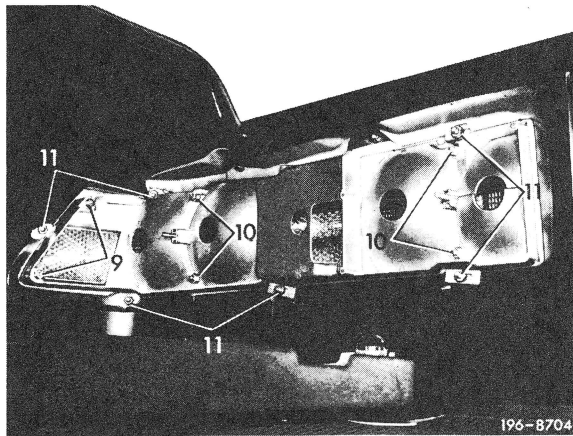

Fig. 5
10 Seal light window of rear light unit. For this purpose, tighten nuts (9, 10) for light window after removing lamp bracket and remove light window, if required, and check sealing frame. When using sealing frame again, insert sealing cord. Tighten nuts (11) for rear light unit (Fig. 5).